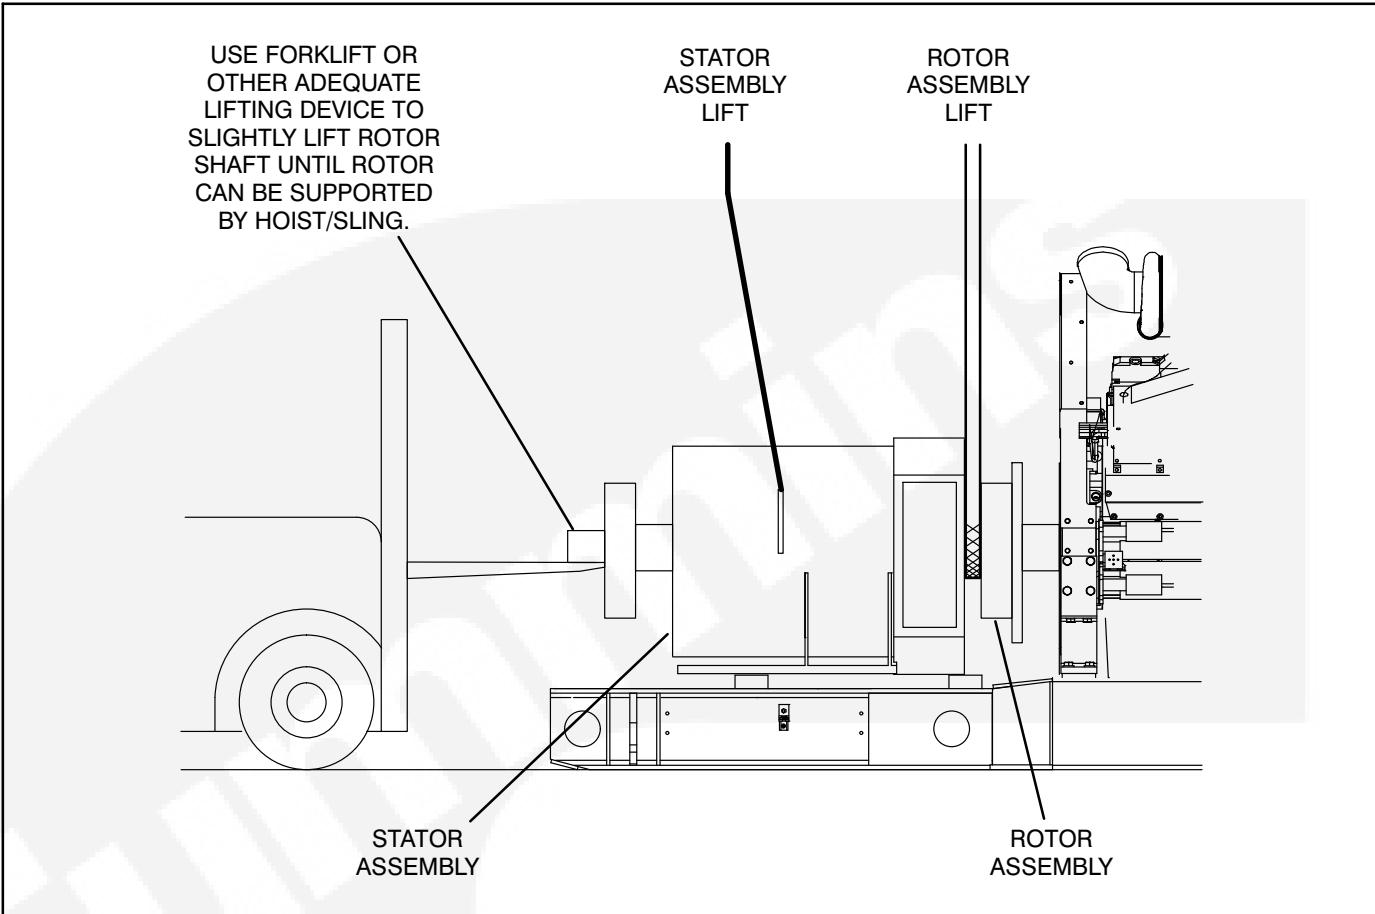

FIGURE 6-13. REMOVING P7 STATOR ASSEMBLY
2. Align the holes of the engine adaptor endbracket with the holes in the flywheel housing and install the capscrews and lock washers. Refer to Figure 6-13 and Table 6-3 for torque specifications.
3. Secure the rotor assembly to the flywheel. Refer to Figure 6-13 and Table 6-3 for torque specifications.